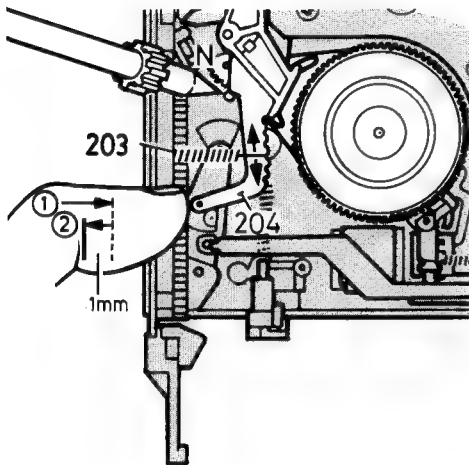

Fig. 2-7
- Carry out preparation items 1 and 2.
- Place the machine in the "still" threaded-in position by pressing the STILL button whilst keeping the light guide pos. 243 covered with the finger tips and the STOP button until threading is complete, also depress switch COD3.
- Rotating the flywheel of the combi-motor clockwise will cause the supply (left hand) turntable to rotate, push ① the lever pos. 204 by the end nearest to the front of the machine towards the turntable as far as possible, the turntable should stop rotating (a small amount of movement is permitted) (Fig. 2-7).
- Whilst still rotating the flywheel clockwise allow ② the lever to release back 1 mm at the front side, the left hand turntable should now rotate freely.
- Adjustment is carried out with item N Fig. 2.7 until the above conditions are achieved, use tool special tool.
- Move the position of the spring pos. 203 along the lever pos. 204 one notch at a time until the phase jump is contained within the width of one colour bar (Fig. 2-7).
- If the original position of the spring is not known then start adjustment from the centre notch on lever pos. 204.